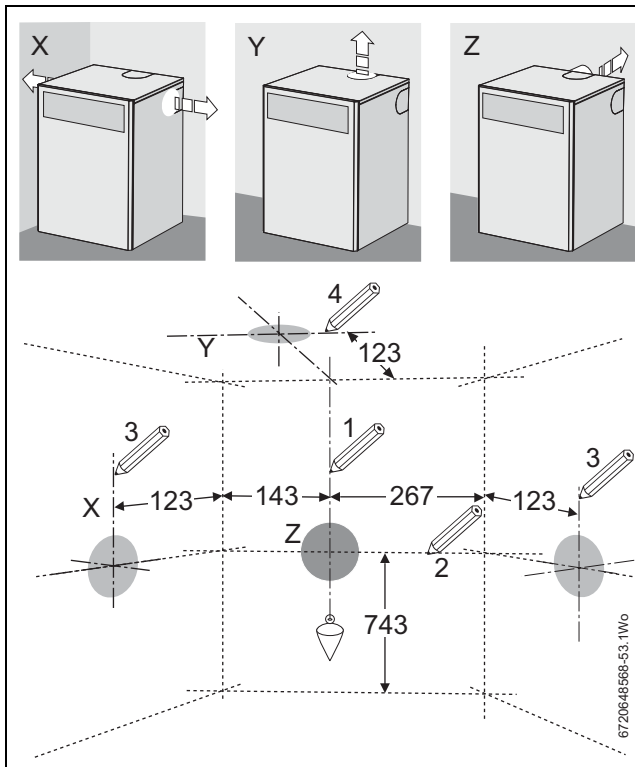

Fig. 21 Boiler flue outlet positions
- ▶ Follow the information in figure 21 to mark the centre of the flue [1 & 2] for rear opening, [2 & 3] for side opening or [1 & 4] for top opening. Measurements shown include the minimum service clearances.